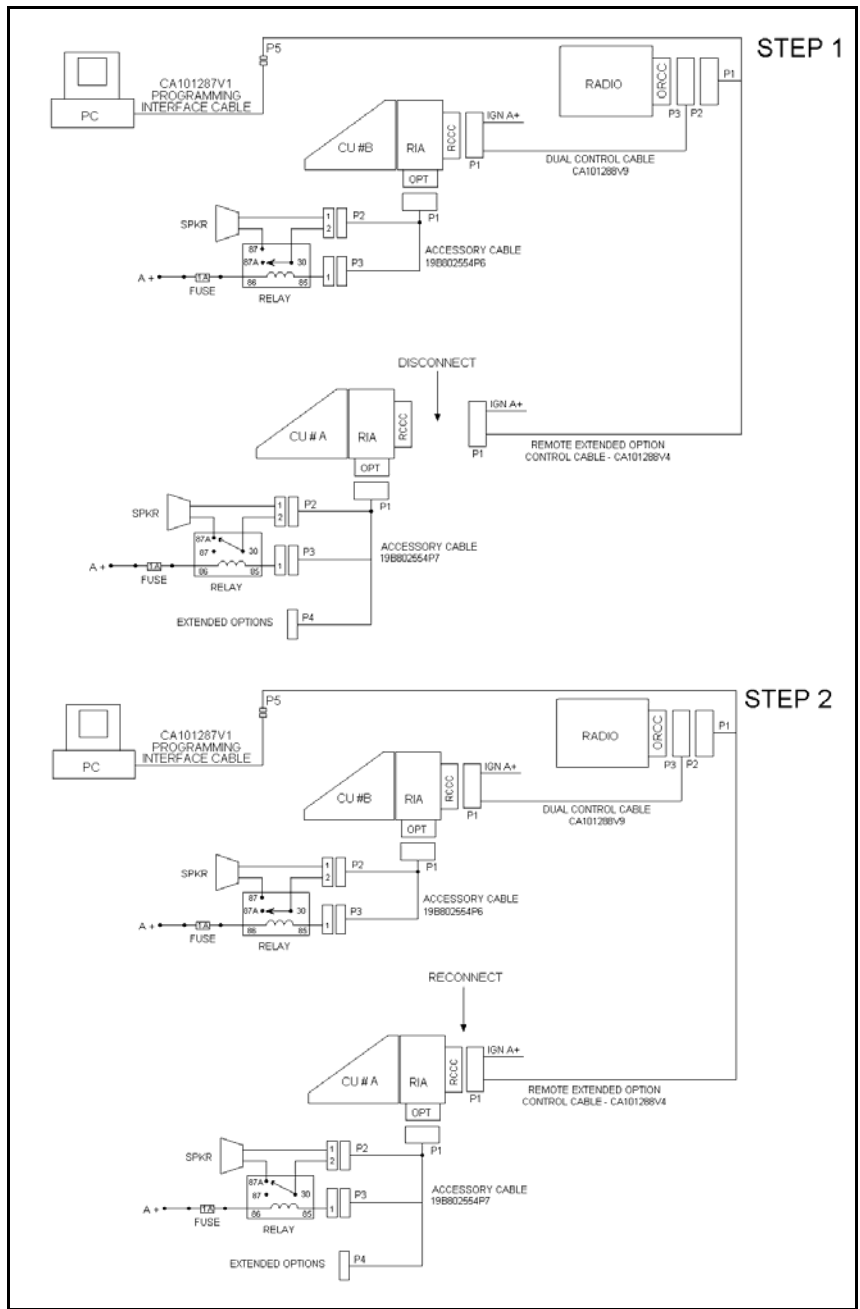

Figure 10-9: M7100^{IP} Field Programming – Dual Control Unit Remote/Remote Mount Configuration
1. Configure the M7100^{IP} Remote Mount Radio per ProGrammer setup as shown in Figure 10-9, Step 1 with Control Unit #A disconnected. Program the radio with the control configurations shown in STEP 1 of “Pre-Installation Programming Procedure with ProGrammer – Remote Mount” and adjust as necessary for the specific application.
2. Now configure the Remote Mount Radio and Auxiliary Control Unit per ProGrammer setup as shown in Figure 10-9, STEP 2, with Control Unit #A. Program the configurations shown in Step 2 of “Pre-Installation Programming Procedure with ProGrammer – Remote Mount” and adjust as necessary for the specific application.